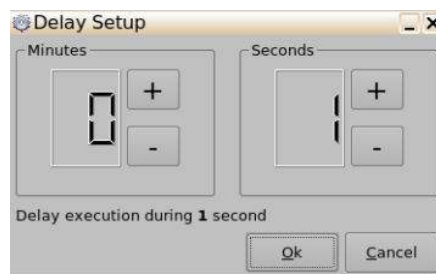

Figure 21: Delay Setup Window
- The user can configure the Delay settings on the Delay Setup window (Figure 21).